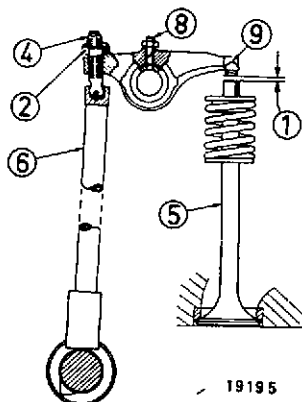

Fig. 26
Valve clearance 1 is correct when the feeler gauge can be inserted with a slight drag in the gap 1 between rocker arm 3 and valve 5 (Fig. 26), both intake and exhaust. If not, loosen lock nut 2 of adjusting screw 4 by one or two turns and adjust by means of a screw driver in such a way that the feeler gauge can easily be drawn out upon retightening lock nut 2.
The center punch mark located above the chamfer on the oil nozzle 8 (Fig. 26) must always point towards rocker arm 9 so as to ensure lubrication even at low idling.
* The valve clearance is the requisite gap 1 between the rocker arms 9 and valves 5 (Fig. 26). Good engine performance and power output depend on its correct setting which can be done by a skilled mechanic according to the above instructions. If not, it should be carried out by a specialist.